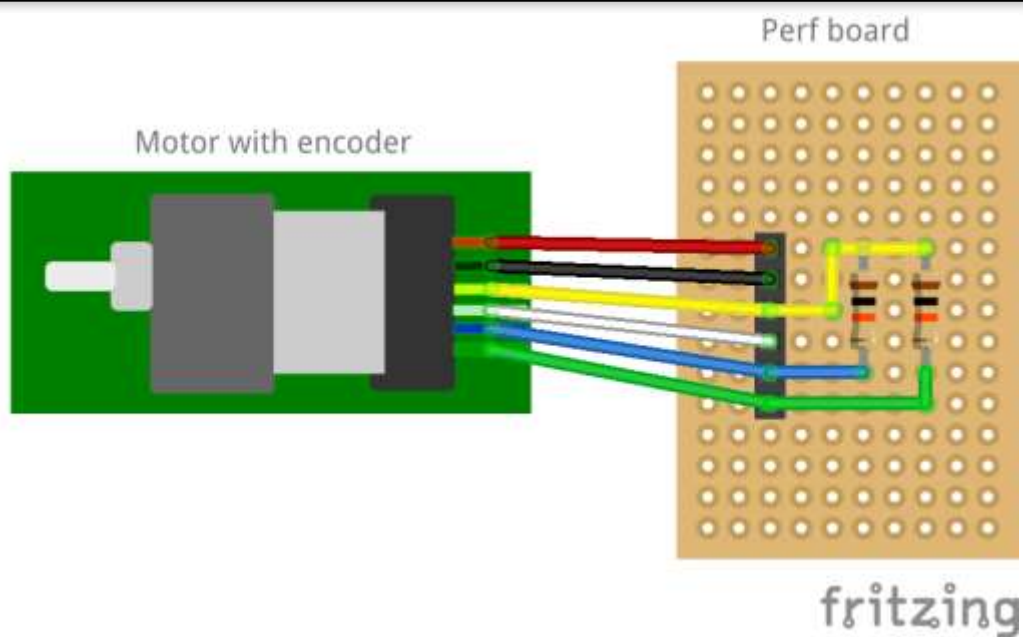

Figure 3: Board for Motor with quadrature encoder
After finishing the connection board should look like Figure 3.
- After finishing the connection board should look like Figure 3.